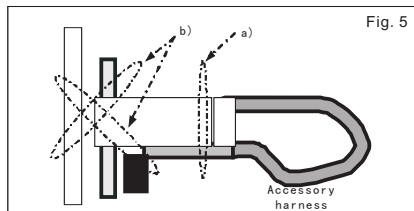

Fig. 5
a) Wrap the fuse of harness E with one of Urethane foam tape H. See in Fig. 5.